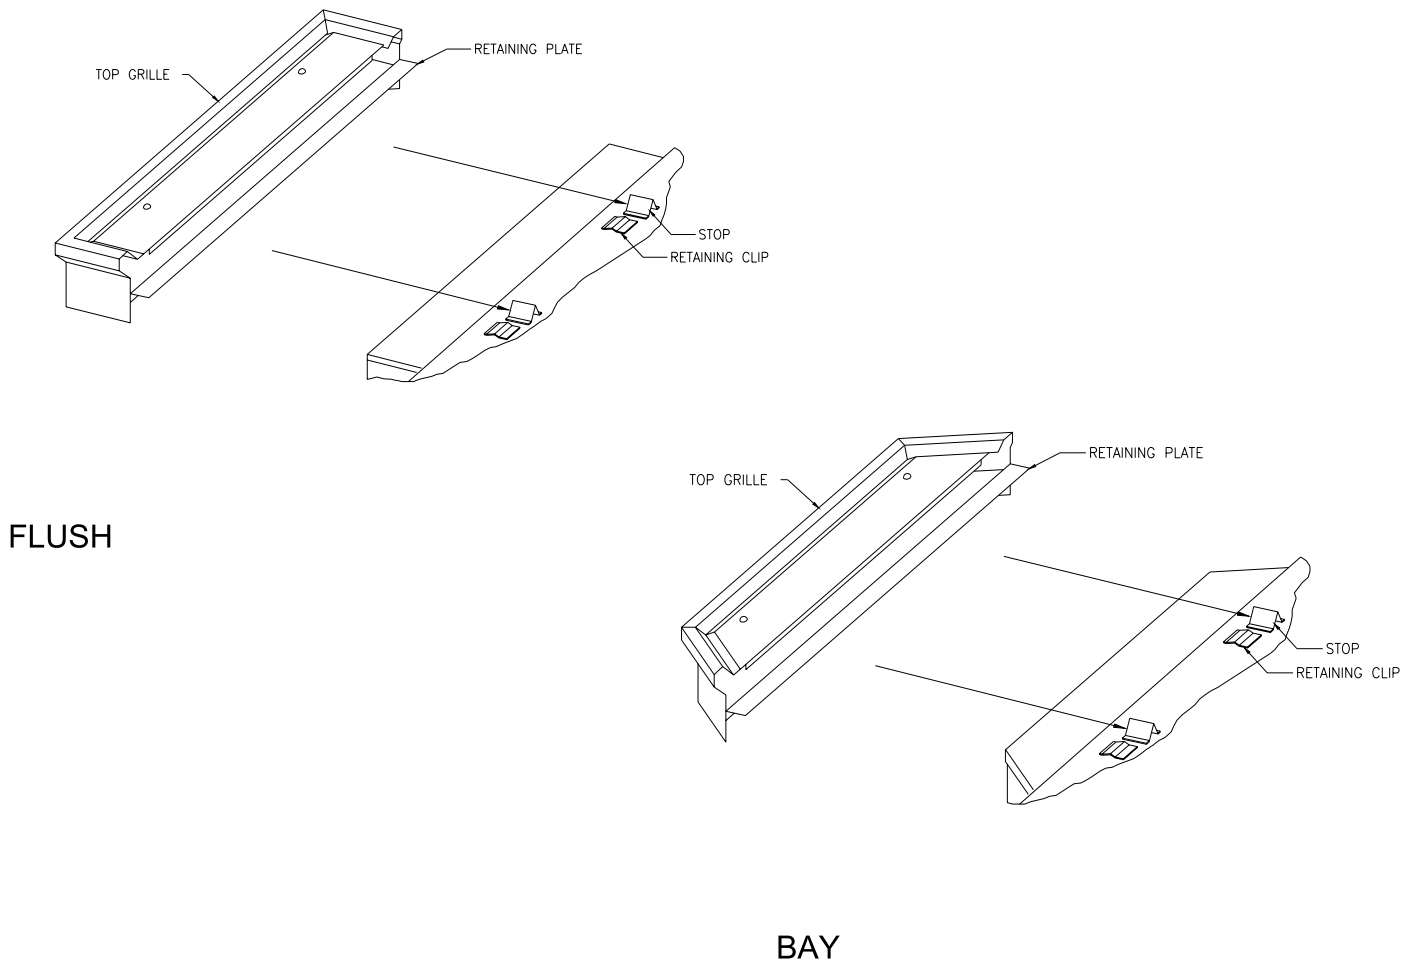

Figure 22
2. Push the grille retaining plate into the clips and against the stops on top of the insert (see Figure 22).